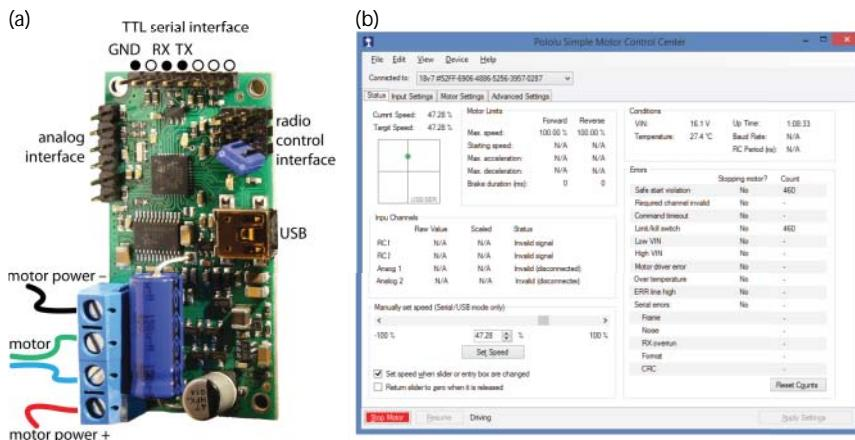

Figure 10-5: (a) The Pololu Simple Motor Controller, and (b) the associated motor configuration tool
The Pololu Simple Motor Controller family (\$30–\$55), illustrated in Figure 10-5(a), supports powerful brushed DC motors with continuous currents of up to 23 A and maximum voltages of 34 V. It supports USB, TTL serial, analog, and hobby radio-control (RC) PWM interfaces. The controller uses 3.3 V logic levels, but it is also 5 V tolerant.
Despite its name, this is an advanced controller that can be configured with settings such as maximum acceleration/deceleration, adjustable starting speed, electronic braking, over-temperature threshold/response, etc., which makes it a good choice for larger-scale robotic applications. The controller can be configured using a Windows GUI application, as illustrated in Figure 10-5(b), or by using a Linux command-line user interface. The Windows configuration tool can also be used to monitor motor temperature and voltage conditions and control the speed settings, braking, PWM, communications settings, and so on over USB, even while the motor is connected to the RPi with a TTL serial interface.
The Simple Motor Controller can be configured to be in a serial ASCII mode, whereupon it can be controlled using a UART device from the RPi with minicom. For example, with ASCII mode enabled and a fixed baud rate of 115,200 (8N1) set in the Input Settings tab (see Figure 10-5(b)), the RPi can connect directly to the motor controller and issue text-based commands to control the motor, such as v (version), F (forward), B (brake), R (reverse), GO (exit safe-start mode), x (stop), etc. See the comprehensive manual for the full list of commands (tiny.cc/erpi1003):